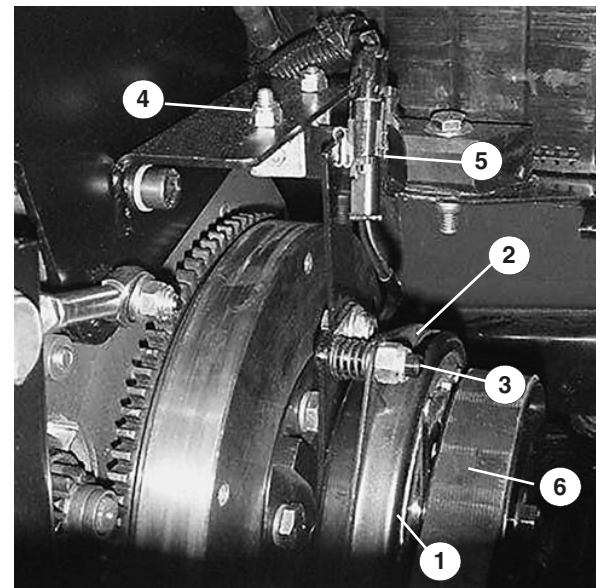

Figure 32
4. Turn power take-off pulley toward the engine and remove the belt (Fig. 32).
2. Remove the left-hand bracket nut and bolt so that you can remove the retainer bracket's rubber bumper (Fig. 32).
4. Adjust the air gap so that a 0.015-inch feeler gauge slides between the clutch lining and friction plate with light pressure (Fig. 32). The gap can be decreased by turning the adjusting nut clockwise.